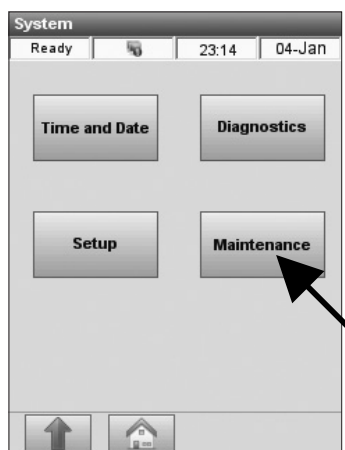

Fig. 3-101 Select Maintenance
1. From the **<Ready>** display, select **<System Manager>** and **<Maintenance>** (Fig. 3-101).